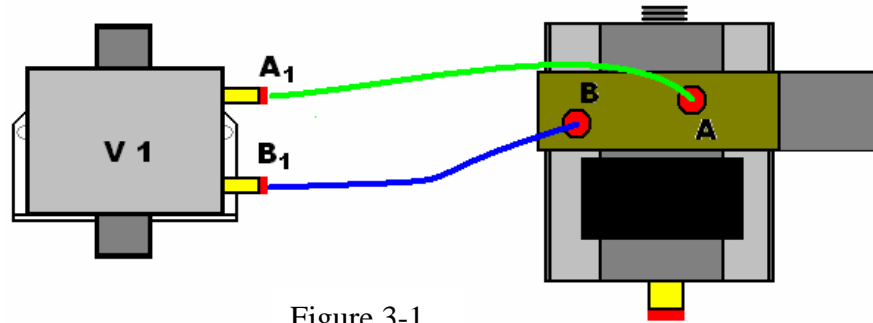

Figure 3-1
- Figure 3-1, below, shows the correct connections for “normally closed” operation of the CV-210 Valve with a single solenoid pilot valve.